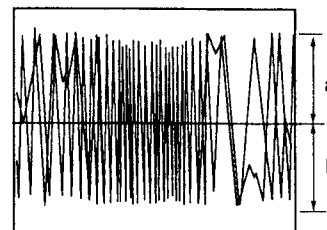

Fig.3 Maximum TRK error.
6. Turn the screwdriver counterclockwise until the TRK waveform's amplitude reaches the first maximum from the null point.(See Fig. 3.)
1. Adjust VR602 so that the TRK error waveform amplitude's positive and negative level become equal. (See Fig.3.)